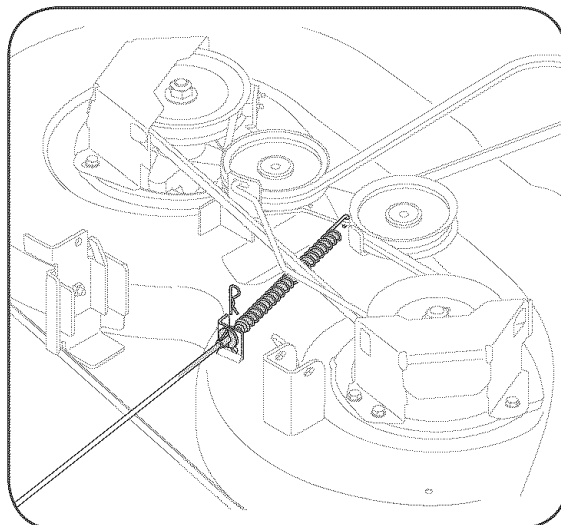

Figure 23
8. Carefully remove the PTO cable from the rear of the cutting deck by removing the hair pin clip which secures it. Remove the spring from the deck idler bracket. See Figure 23.